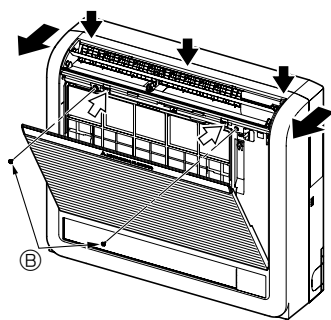
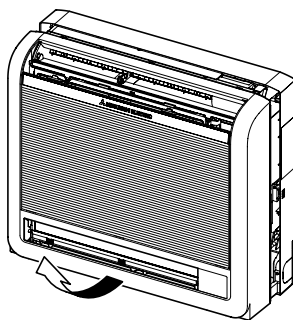

Fig. 3-3
Fig. 3-4
- ① Press the 2 positions indicated by the arrows and open the front grille. (Fig. 3-3)
- ② Open the front grille and remove the 2 screws.
- ③ Open the horizontal vane for the upper air outlet, push the top of the front panel in 3 locations, and then pull the top of the grille away from the indoor unit.
- ④ Lift up the front grille to remove it. (Fig. 3-4)